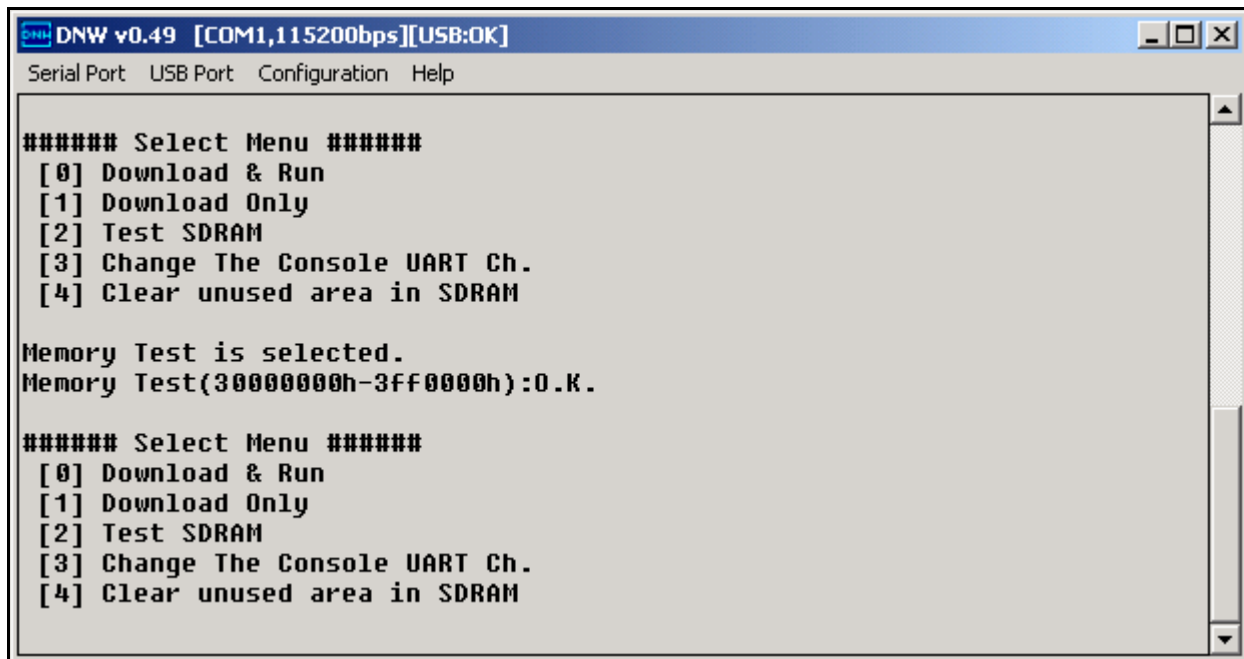

Figure 4-4 SDRAM Test
6. Please enter '2' to check whether SDRAM can Read and Write. Now the DNW application window will appear as shown below in the figure 4-4.